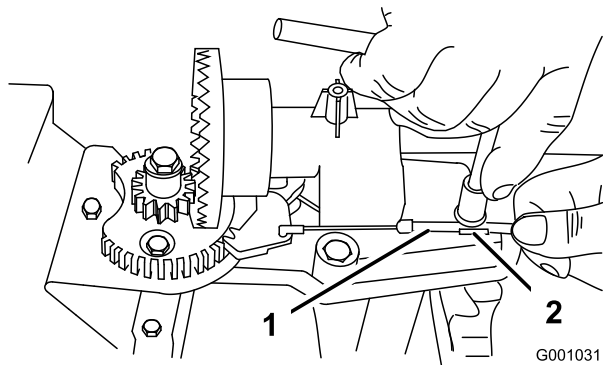
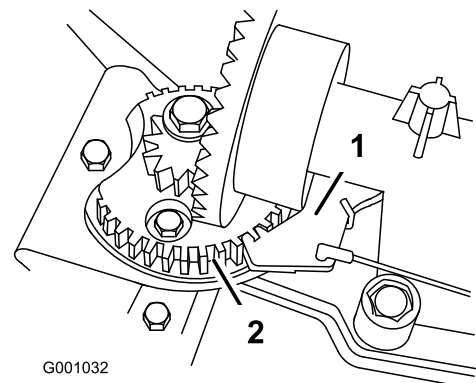

Figure 50
Figure 51
2. Loosen the bolt on the cable clamp (Figure 50).
3. Grasp the cable conduit and move it toward the front of the machine until the discharge chute latch fully engages the gear teeth (Figure 50 and Figure 51).
**Note:** The latch is spring loaded and will naturally move into the teeth of the gear (Figure 51).